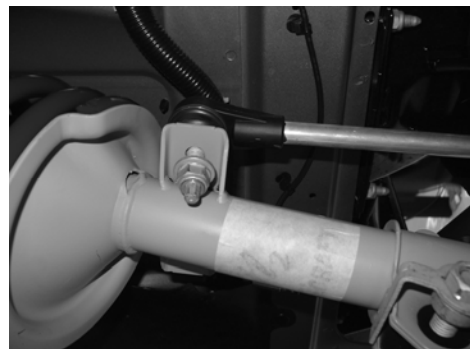

Figure 3
2. Unbolt the end link from the strut using the 3/8" impact gun with the 18mm socket. (Figure 3)